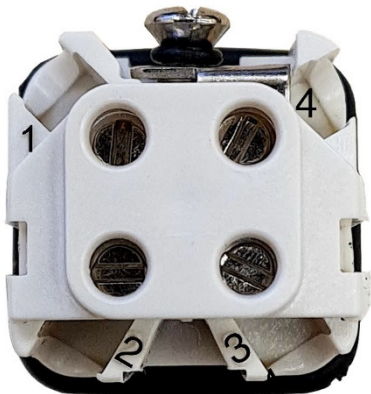
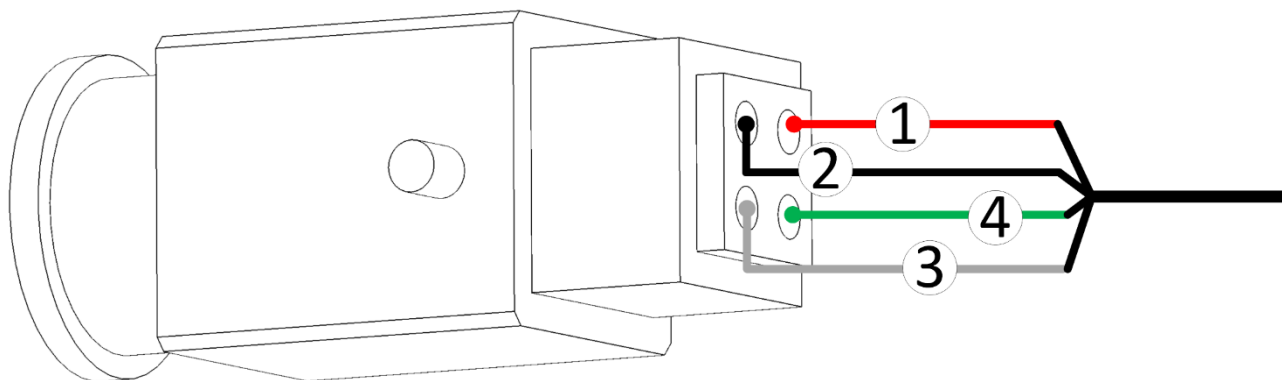

Figure 7: Connector Numbers
Figure 8: Wired Connector (example cable; actual colors may differ)
5. On the top of the connector are numbers (Figure 7). Each wire must be attached to the corresponding port (Table 1). Connect the four wires to the connector (Figure 8).